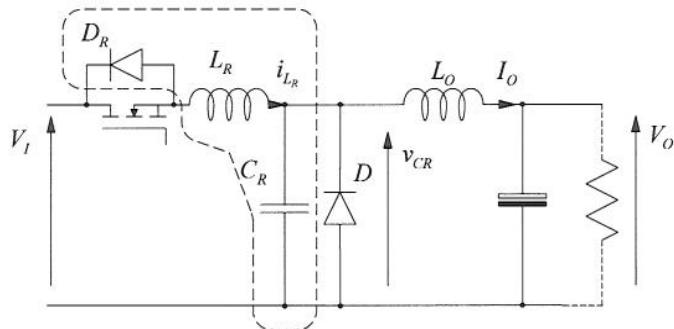
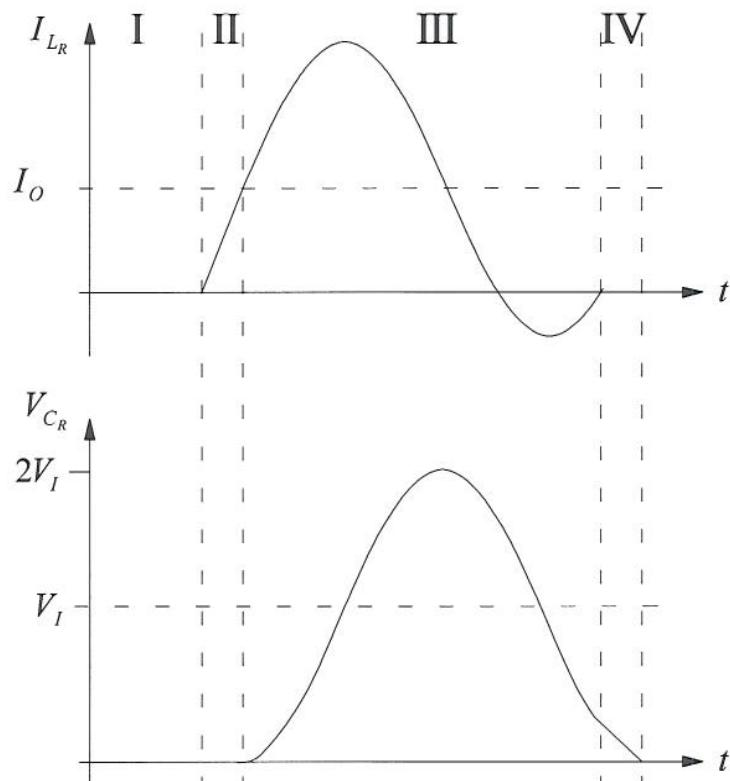

Figure 4.1 A zero-current switched quasi-resonant circuit
Figure 4.2 The four periods of operations of a zero-current switched
- (b) Figure 4.1 shows a zero-current switched quasi-resonant circuit and figure 4.2 shows the four periods of operation defined by the capacitor voltage and inductor current of the resonant circuit. Describe the circuit action in each of the four periods.